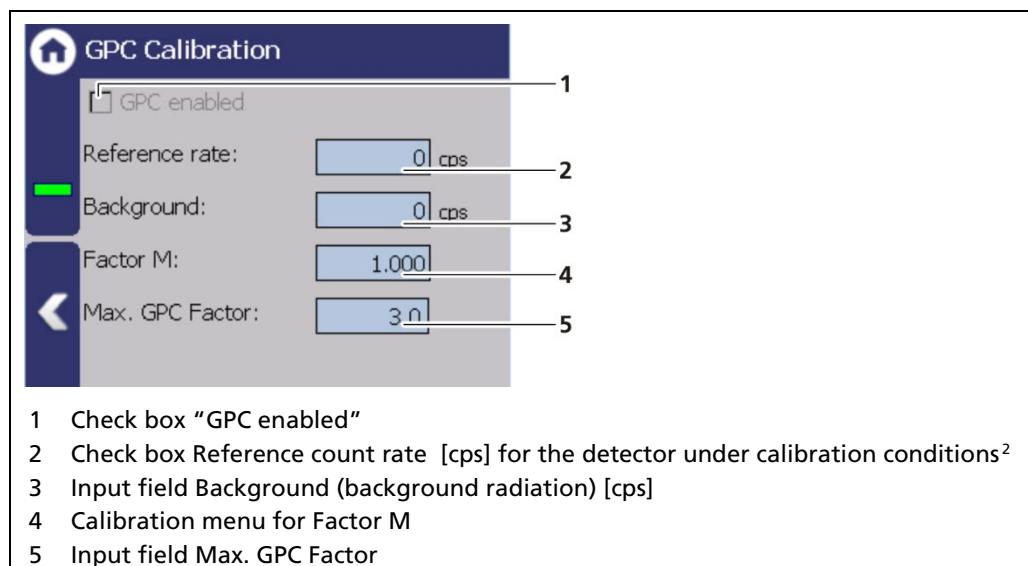

Fig. 93 GPC Calibration
The "GPC calibration" is used to adapt the measuring sensitivity of the gas density detector to that of the level detector. The check box "GPC enabled" (Fig. 93, item 1) can only be selected when a detector is configured for gas density measurement and the unit % is for "PV" selected.
The reference count rate of the connected density measurement must be recorded at the same pressure at which the level calibration table was recorded. Therefore, it is recommended to read in the reference count rate immediately after recording the empty level count rate. Click on the input field for the reference count rate (Fig. 93, item 2) to read in the reference count rate.
1. Click on the text field "count rate" (Fig. 93, item 3).
1. Click on the text field "Background" (Fig. 93, item 3).
After all values have been entered or calculated in the GPC calibration window, the GPC function can be activated with the "GPC activated" check box (Fig. 93, item 1).